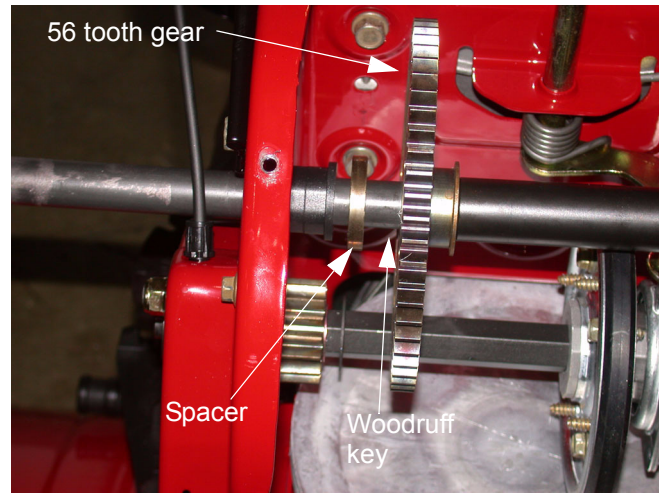

Figure 9.4
- 9.4. Slide the large 56T gear inward while gently pulling on the axle to expose the key that engages the gear. See Figure 9.4.